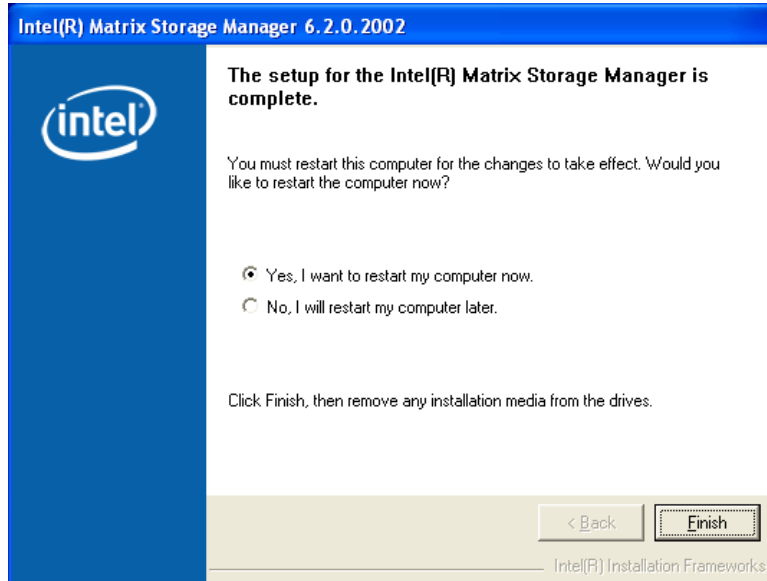

Figure 7-29: Matrix Storage Manager Setup Complete
Step 12: After the driver installation process is complete, a confirmation screen appears (Figure 7-29).